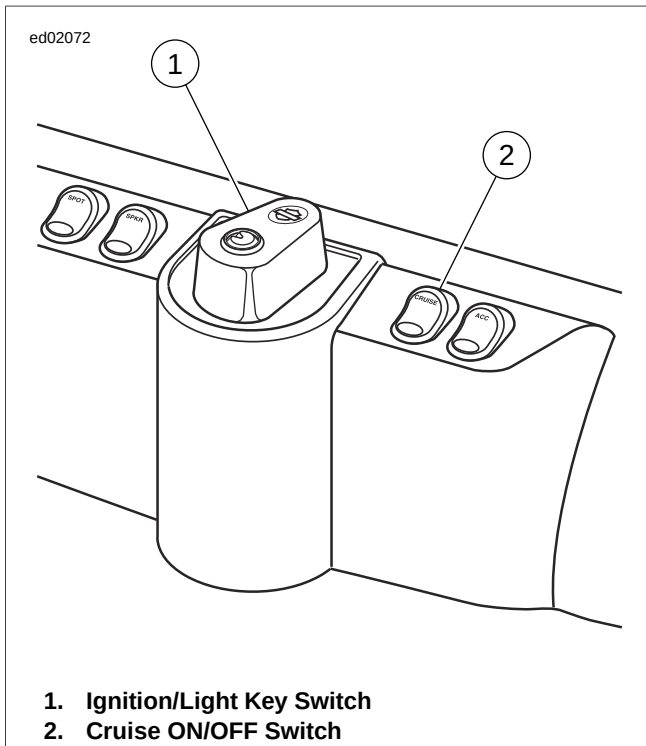
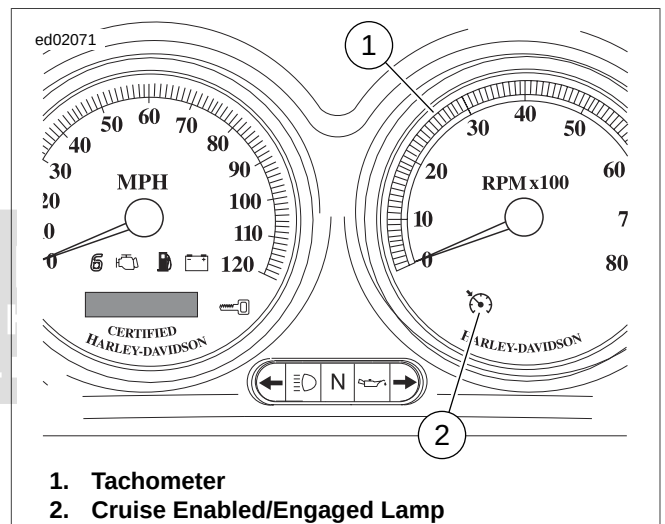

Figure 4-61. Fairing Cap (FLHTCU)
Figure 4-63. Instrument Panel (FLHTCU)
1. While riding in fourth, fifth, or sixth gear, turn the Cruise ON/OFF Switch to the ON position. See Figure 4-61. The switch is located on the fairing cap of FLHTCU models, the instrument nacelle of FLTR models, and the left handlebar lower switch housing on FLHRC models. The Cruise Enabled/Engaged lamp in the tachometer face (speedometer on FLHRC models) turns orange to indicate that the system is activated. See Figure 4-63. An orange lamp in the switch on both FLHTCU and FLTR models also indicates this condition to the rider.
orange to green to indicate that the cruising speed is locked in. See Figure 4-63.
In the diagnostic mode, the Cruise Enabled/Engaged lamp is employed as a test indicator. The lamp is in the tachometer face (speedometer on FLHRC models). See Figure 4-63.